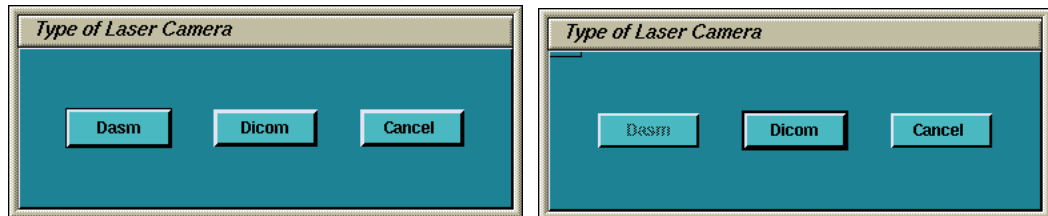

Figure 5-3 Dialog Box for camera Type (with and without DASM)
- b.) Now a dialog window for the camera type (DASM/DICOM) appears. If no DASM is detected during the OC boot, the DASM button will be disabled (See Figure 5-3). If a DASM is present and has not been detected, re-boot the OC and run the camera